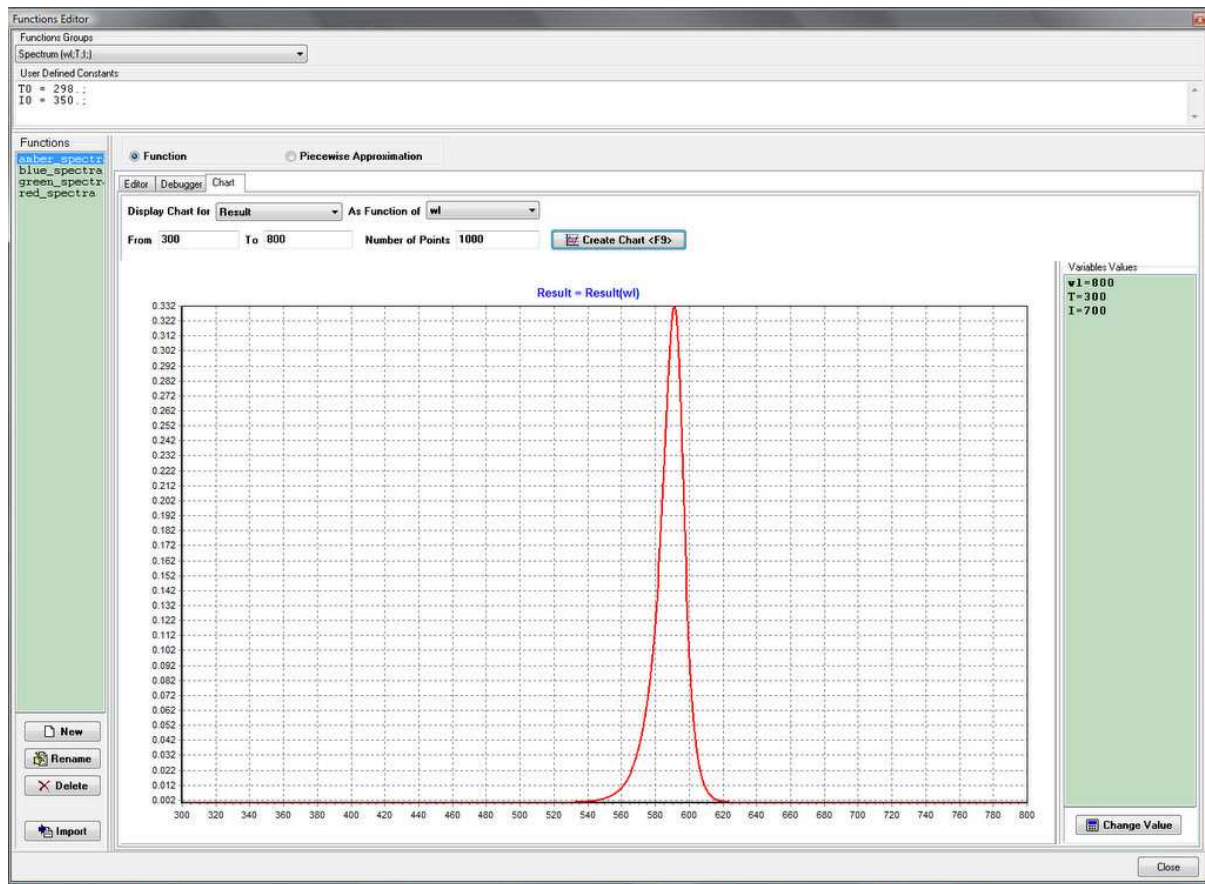

Fig. 35
- Tab **Chart** provides graphical visualization of the specified function. It contains the following items (see Fig.35):